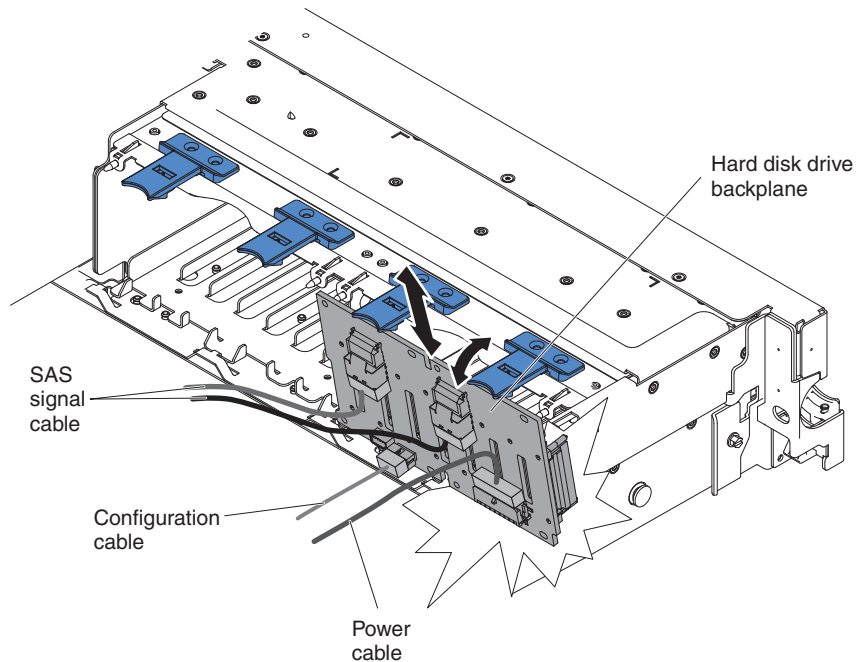

Figure 91. The 2145-DH8 disk drive backplane
6. Lift the two front tabs and rotate the backplane assembly/backplane toward the rear of the server to remove the backplane assembly/backplane, as shown in Figure 91.